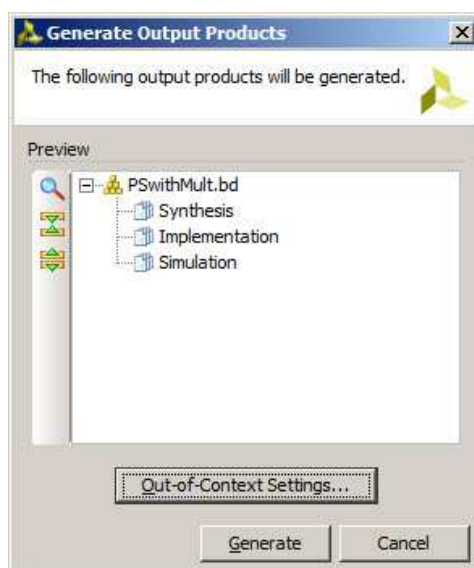

Figure 34: Generate Output Products Option
2. The **Generate Output Products** dialog box opens (Figure 34). Click “Generate”.